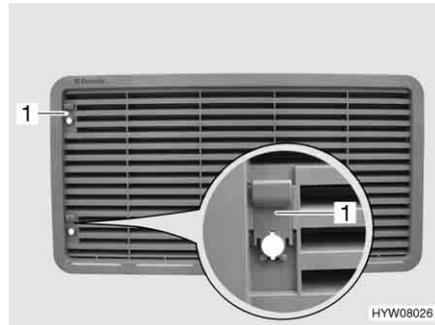

Fig. 142 Refrigerator ventilation grill (with sliding trap)
- Push sliding trap (Fig. 142,1) upward.